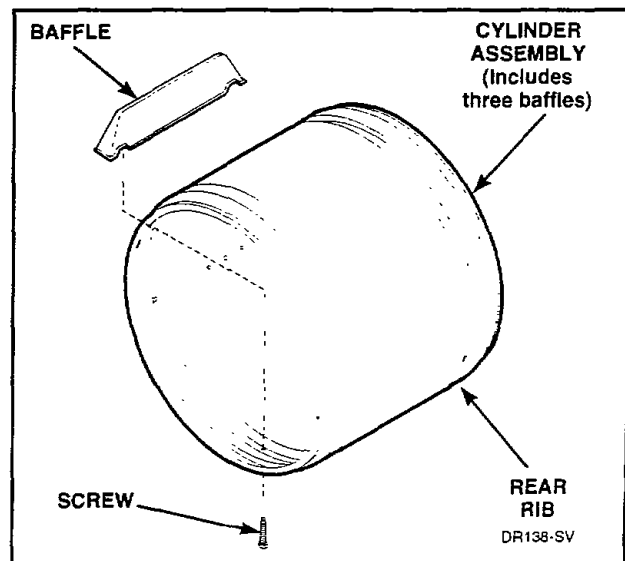

Figure 39
**NOTE:** When installing belt, make sure belt is properly installed on motor and idler pulleys, and is on the correct side of the idler lever, *Figure 32*. Belt must be positioned around cylinder approximately three inches ahead of the rear rib on cylinder, *Figure 39*, with the ribbed surface of the belt against cylinder. After installing belt, manually rotate cylinder **counterclockwise** to check that belt is properly aligned.
Remove screws holding baffles to cylinder, *Figure 39*.
**NOTE:** When installing belt, make sure belt is properly installed on motor and idler pulleys, and is on the correct side of the idler lever, *Figure 32*. Belt must be positioned around cylinder approximately three inches ahead of rear rib on cylinder, *Figure 39*, with the ribbed surface of the belt against cylinder. After installing belt, manually rotate cylinder **counterclockwise** to check that belt is properly aligned.